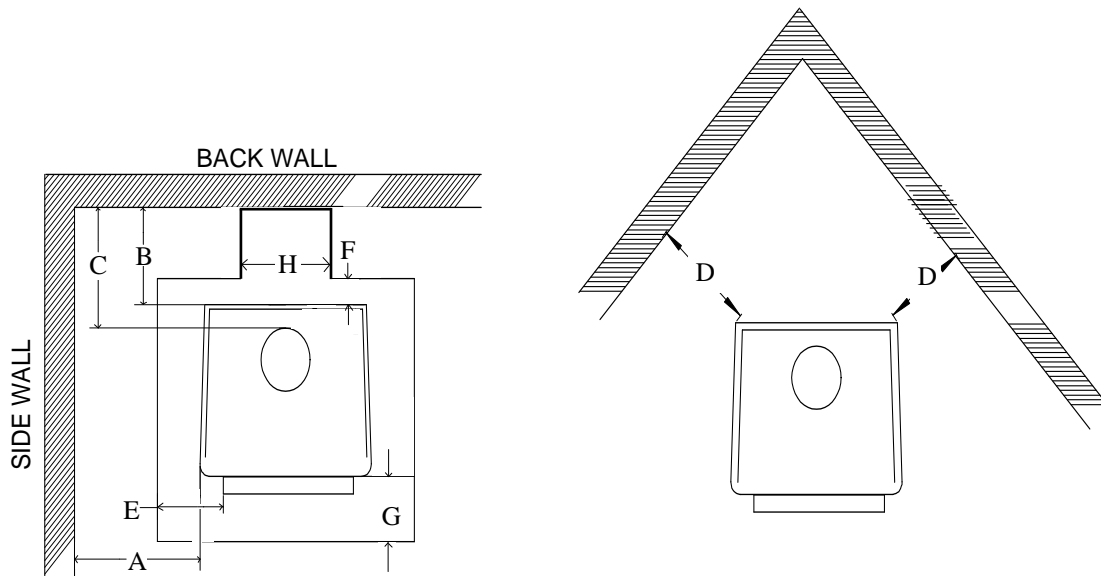

Figure 13
**NOTE:** Floor protector must be under horizontal pipe exit (See Figure 13. Page 19).
For wall exit, Floor protector must be under horizontal pipe the length between stove and exit. Must be 2" on each side of pipe. Maintain 18" between pipe and ceiling. (See Figure 13, measurements F & H).